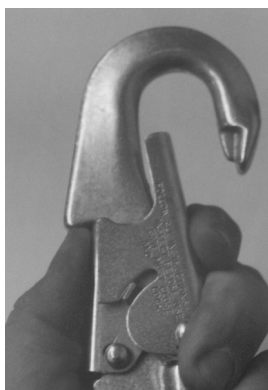

Figure 5h
- d. Use the other hand to depress the lock and open the gate. See Figure 5h.